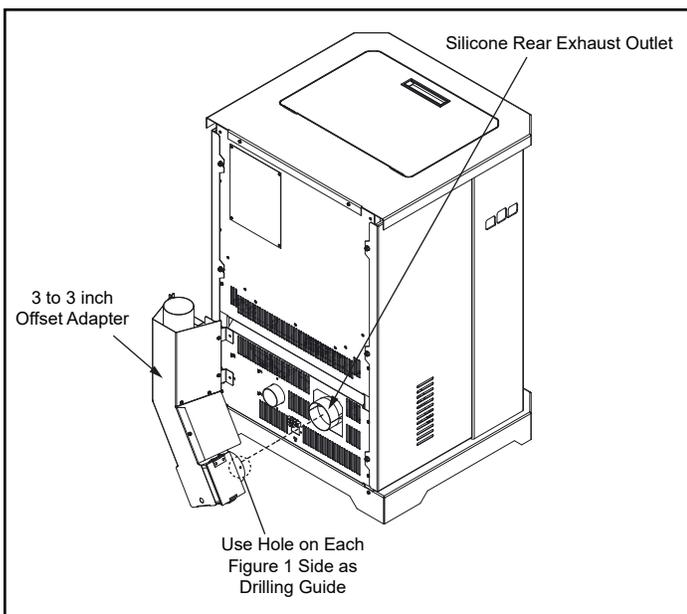

Figure 1
1. Put a layer of high temperature silicone on the 3 inch (76mm) exhaust outlet. Do not put silicone inside of pipe (Figure 1).
2. Slide the Top Vent Adapter Assembly (C1) onto the rear exhaust outlet and adjust the assembly to a vertical position (Figure 1).
4. Install four (4) mounting 8-32 x 3/8 inch Screws (C3) using a Phillips head screwdriver.
5. Drill two (2) holes with #26 Drill Bit (C2) through the rear exhaust outlet using the two (2) holes already in the short horizontal pipe in the Top Vent Adapter Assembly (C1) as a guide. Install with two (2) 8-32 x 3/8 inch Screws (C3) (Figure 1 on page 1).